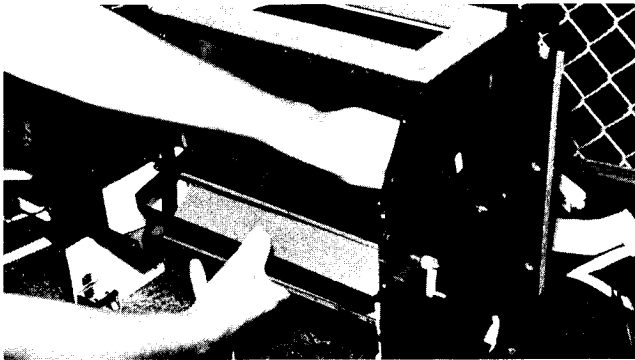

FIGURE 15
Step 9. Also make sure the temperature control door shaft goes back into its position in the center support panel (Figure 15).